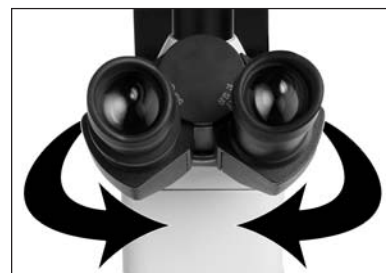

Figure 29
17. Place a specimen on the stage and while looking through the eyepieces fold the eyetubes together or further apart (figure 29) to make the two images converge into one field of view. This adjustment will be different for all users and should be checked and readjusted before each use.